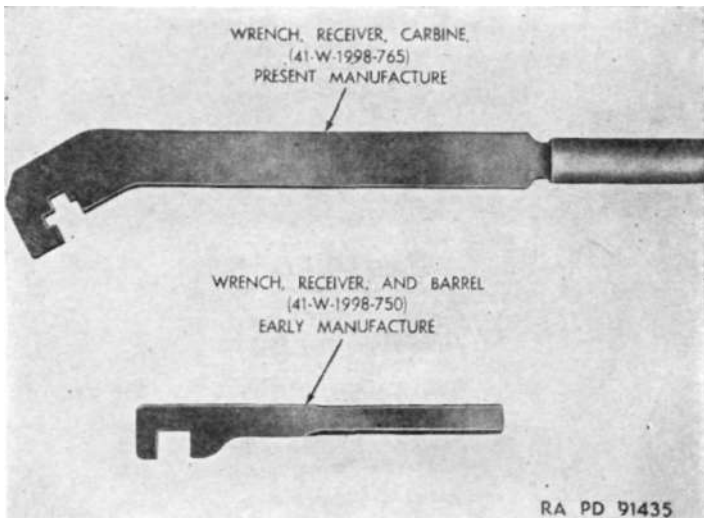

Figure 14. Receiver wrenches — early and present manufacture.
*j.* WRENCH, RECEIVER AND BARREL, CAL. .30 CARBINE, 41-W-1998-750 (fig. 14). This wrench has a rectangular opening in the side which conforms to the carbine receiver and is used to remove barrels when rebarreling is necessary.
*k.* WRENCH, RECEIVER AND BARREL, CAL. .30, CARBINE 41-W-1998-765 (fig. 14). This is a special wrench designed to conform to the three sides of the carbine receiver, providing a greater bearing surface than the receiver wrench of early manufacture.